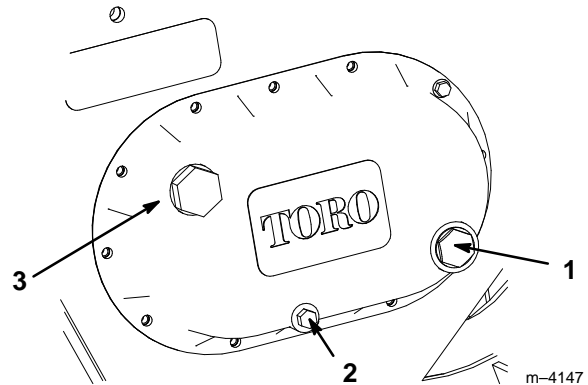

Figure 15
3. Check the clear glass gage on the side of the gear case (Fig. 15). The gear lube should be at the level of the red dot in the center of the gage.
4. If the gear lube level is low, remove the fill plug (Fig. 15) and fill the case with gear lube until it is level with the red dot in the gage.
4. Remove the drain plug (Fig. 15), allowing the oil to spill out into the container.
6. Remove the fill plug (Fig. 15) and fill the case with gear lube until it is level with the red dot in the gage.